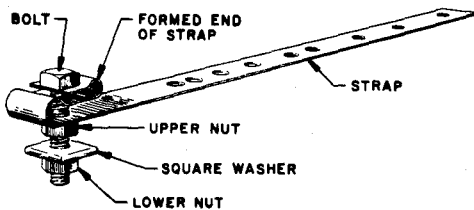

Fig. 60—L Ground Clamp
6.23 The L ground clamp (Fig. 60) is used to terminate No. 6 ground wire and is installed in the following manner: